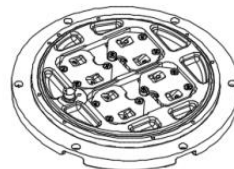

Figure 4-18
- Fetch a new gasket and place it into the seal groove. It shall be in the seal groove naturally (see Figure 4-18).